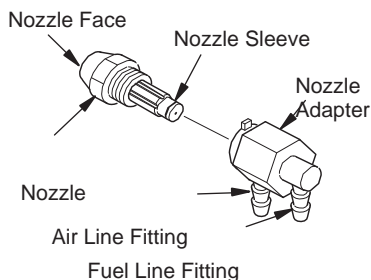

Figure 19 - Nozzle and Nozzle Adapter
6. Carefully remove nozzle from the nozzle adapter using 5/8" socket wrench (see Figure 19).
9. Replace nozzle into nozzle adapter until nozzle seats. Tighten 1/3 turn more using 5/8" socket wrench 4.5 to 5.1 N-m (40 to 45 in-lbs). See Figure 19).